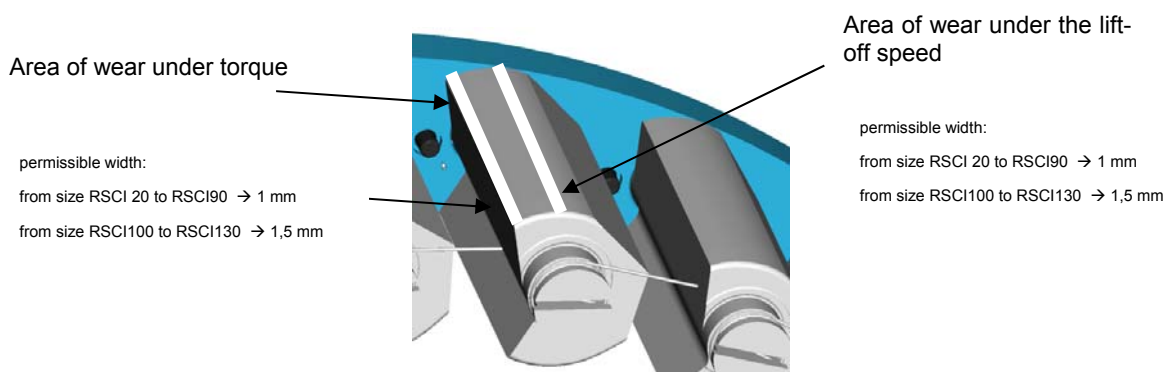

Figure 8: wear zones
- Pre-clean the outer race (1), inner race and cage (8) with a petroleum-based industrial cleaning agent and degrease with an acetone-based cleaning agent
- Maximum width of the wear facet on the clamp bodies (see Figure 8)